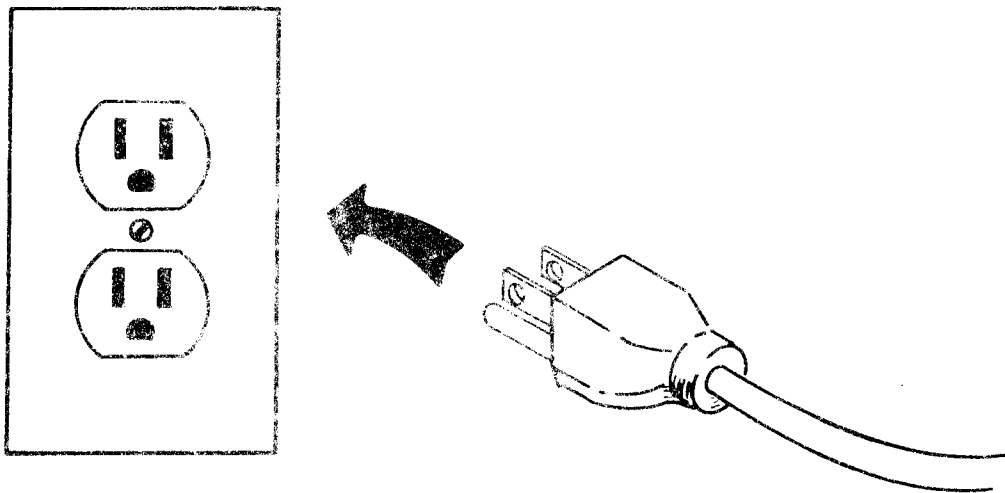

Figure 88. Plug Power Cord into Power Source
- h. Plug the power cord into a power source (see Figure 88).